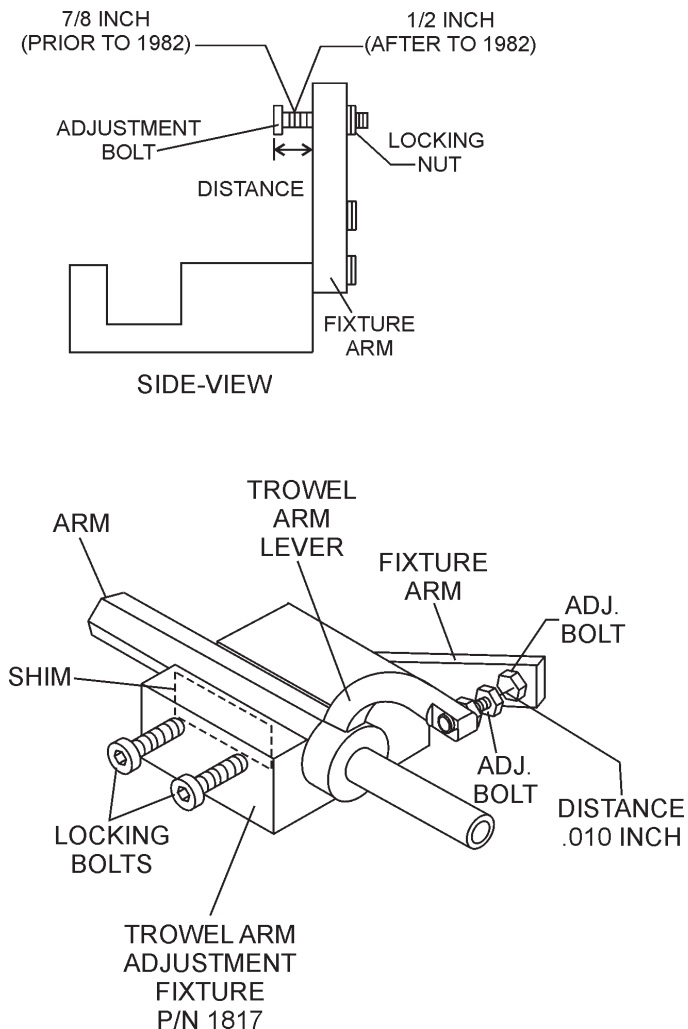

Figure 47. Trowel Arm Adjustment Tool
Shown in Figure 47 is the adjustment fixture with a trowel arm inserted. As each trowel arm is locked into the fixture, the arm bolt is adjusted to where it contacts a stop on the fixture. This will consistently adjust all of the trowel arms, keeping the finisher as flat and evenly pitched as possible.
2. Trowels manufactured prior to June of 1982 require that the distance from the end of the adjusting bolt and the fixture arm must be 7/8" (Figure 47). Conversely, trowels manufactured after June of 1982 require that the distance from the end of the adjusting bolt and the fixture arm must be 1/2".
3. Un-screw the locking bolts on the adjustment tool, and place the trowel arm into the adjustment fixture channel as shown in Figure 47. A *thin shim* may be required to cover the blade holes on the trowel arm. Make sure to align the trowel adjustment bolt with the fixture adjustment bolt.